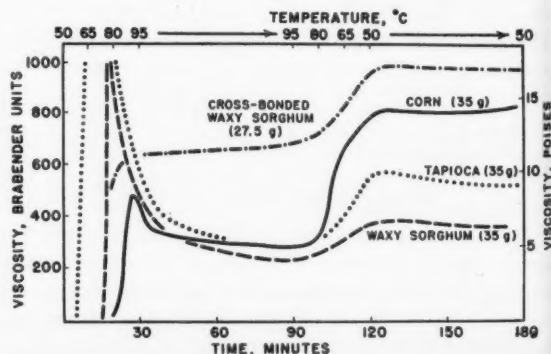

Fig. 8. Brabender viscosity curves of various thick-boiling starches. Concentration given in g. of starch (dry basis) per 500 ml. of slurry.
Viscosity is certainly primary in importance, and many ways of measuring this property have been used. For research purposes the Brabender recording viscometer is used, by which the starch is cooked to 95°C., held at this temperature for 1 hour, then cooled to 50°C. and held for an hour (5). Each species of starch gives its own peculiar type of curve (Fig. 8). The high swelling and solubilization of potato and tapioca starches are reflected in their high pasting peaks and substantial breakdown on cooking. In contrast, corn and regular sorghum starches show greater granule stability and little breakdown on cooking. The cross-bonded waxy sorghum starch is particularly interesting, since it shows no pasting peak. Indeed, the granules do not break down at all dur-